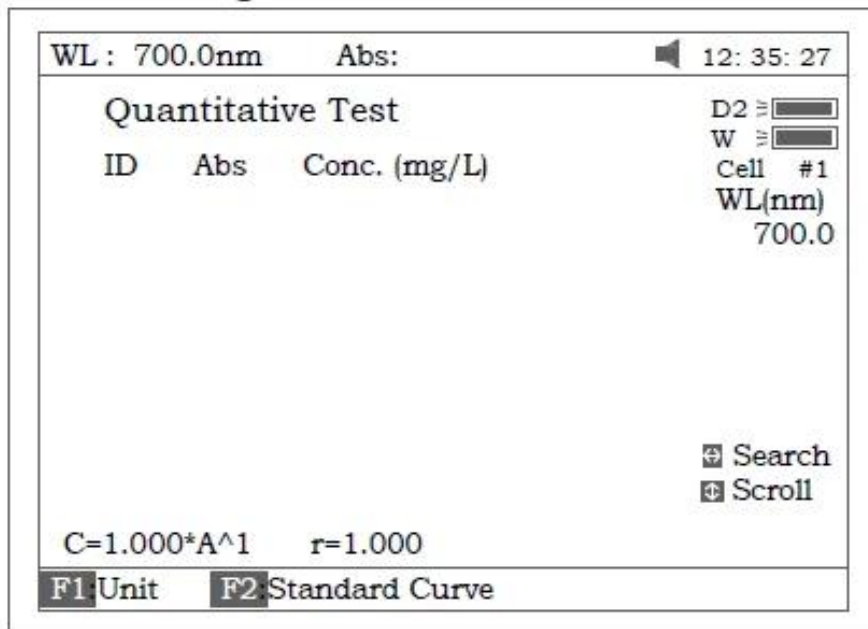
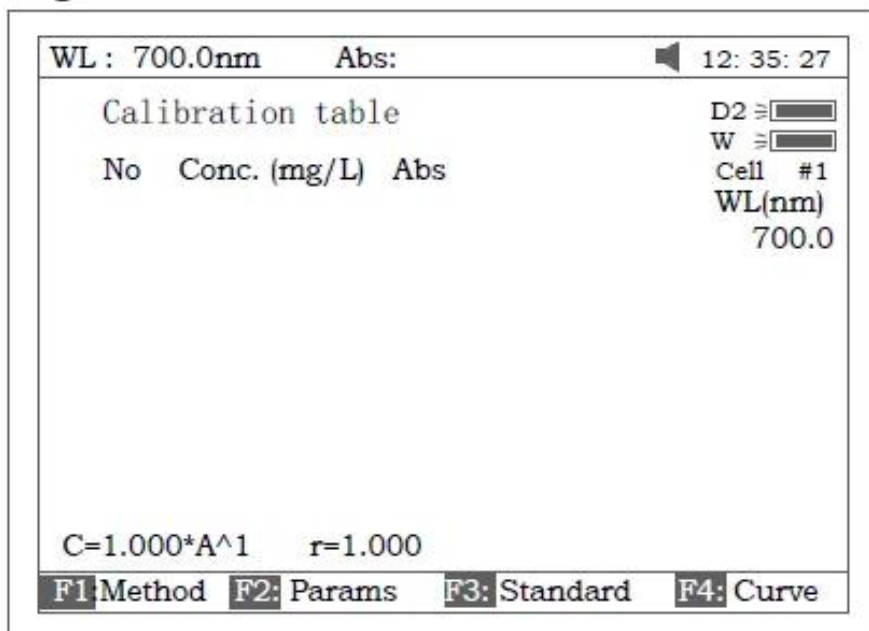
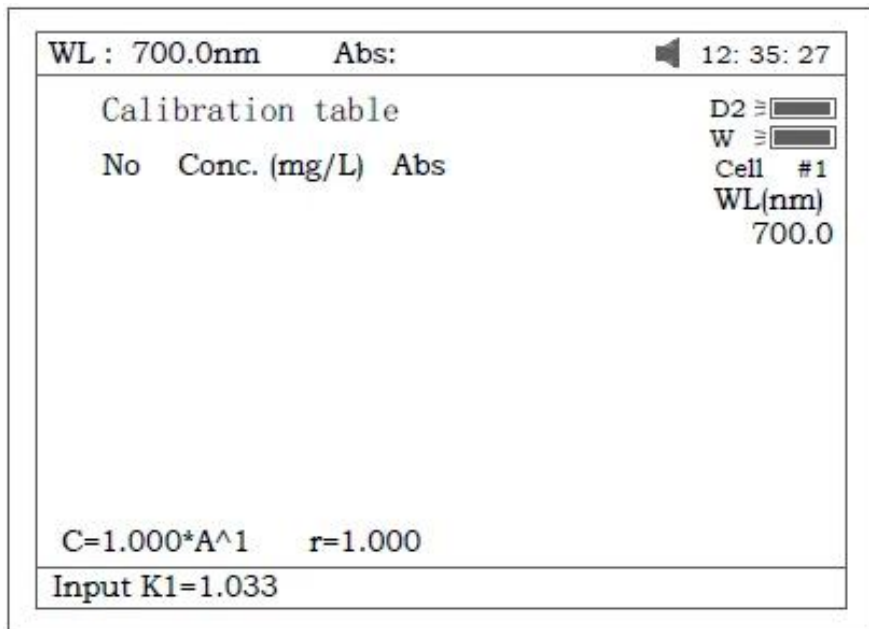
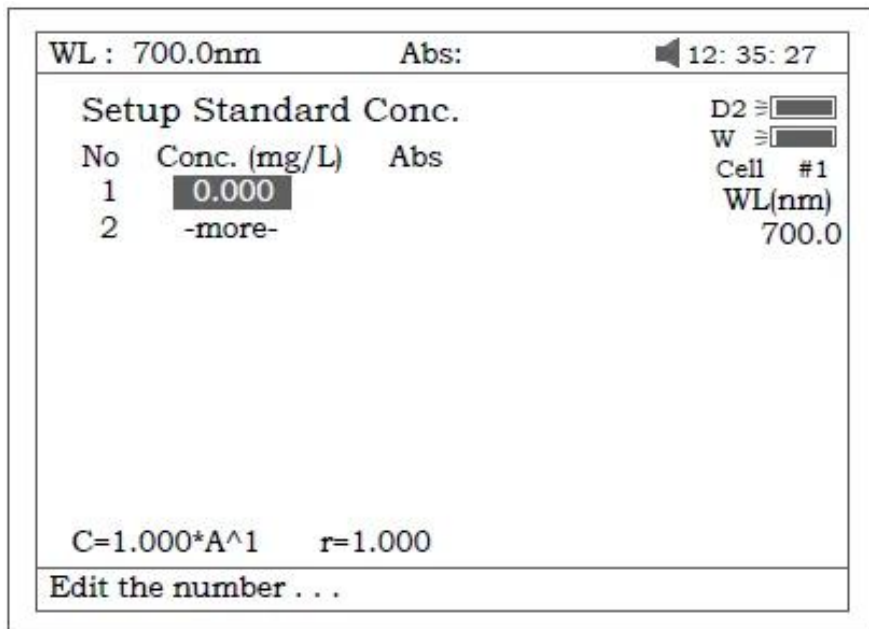

Figure 26
Figure 29
Figure 29A
Figure 30
Press **【2】** in Main Menu for "Quantitative" Test (Fig 26). Press **【ESC/STOP】** to exit.
Note: .If no automatic changer installed "cell #1" will disappear in Fig26.
3. Press **【F2】** in Fig 26 for more items to select .See Fig 29.
3.1 Press **【F1】** in Fig 29 to select fitting method. There are 4 methods for you to choose: Linear fit, linear fit through zero, square fit and cubic fit.
3.2 Press **【F2】** in Fig 29 to enter directly a known standard curve.Fig29A.
3.3 Press **【F3】** in Fig 29 to establish a standard curve by measuring a group of standard samples. See Fig 30.
b) Known standard curve, which is not saved in the instrument. See 3.2. For Fig 29 enter a known standard curve directly.
Note: All sample results must be taken in screen Fig26.